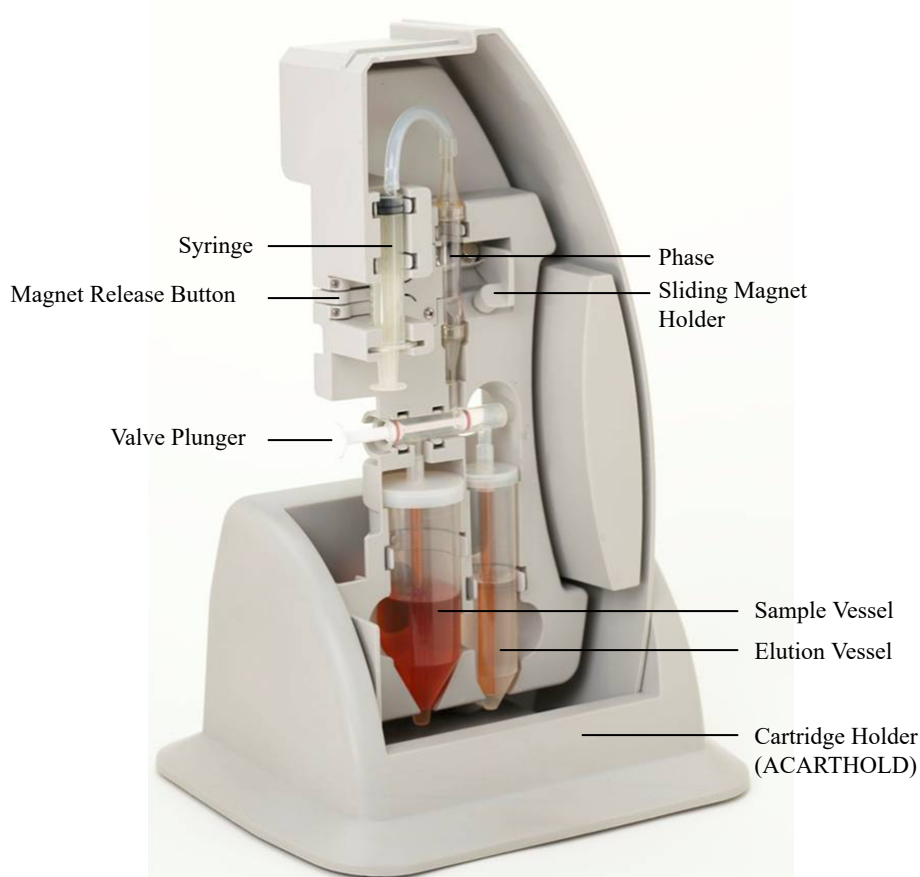

Figure 4 Assembled Cartridge
7. Firmly push the remainder of the kit into the Cartridge, ensuring that the valve, phase, and syringe are all held securely in the molded recess of the Cartridge (Figure 4).